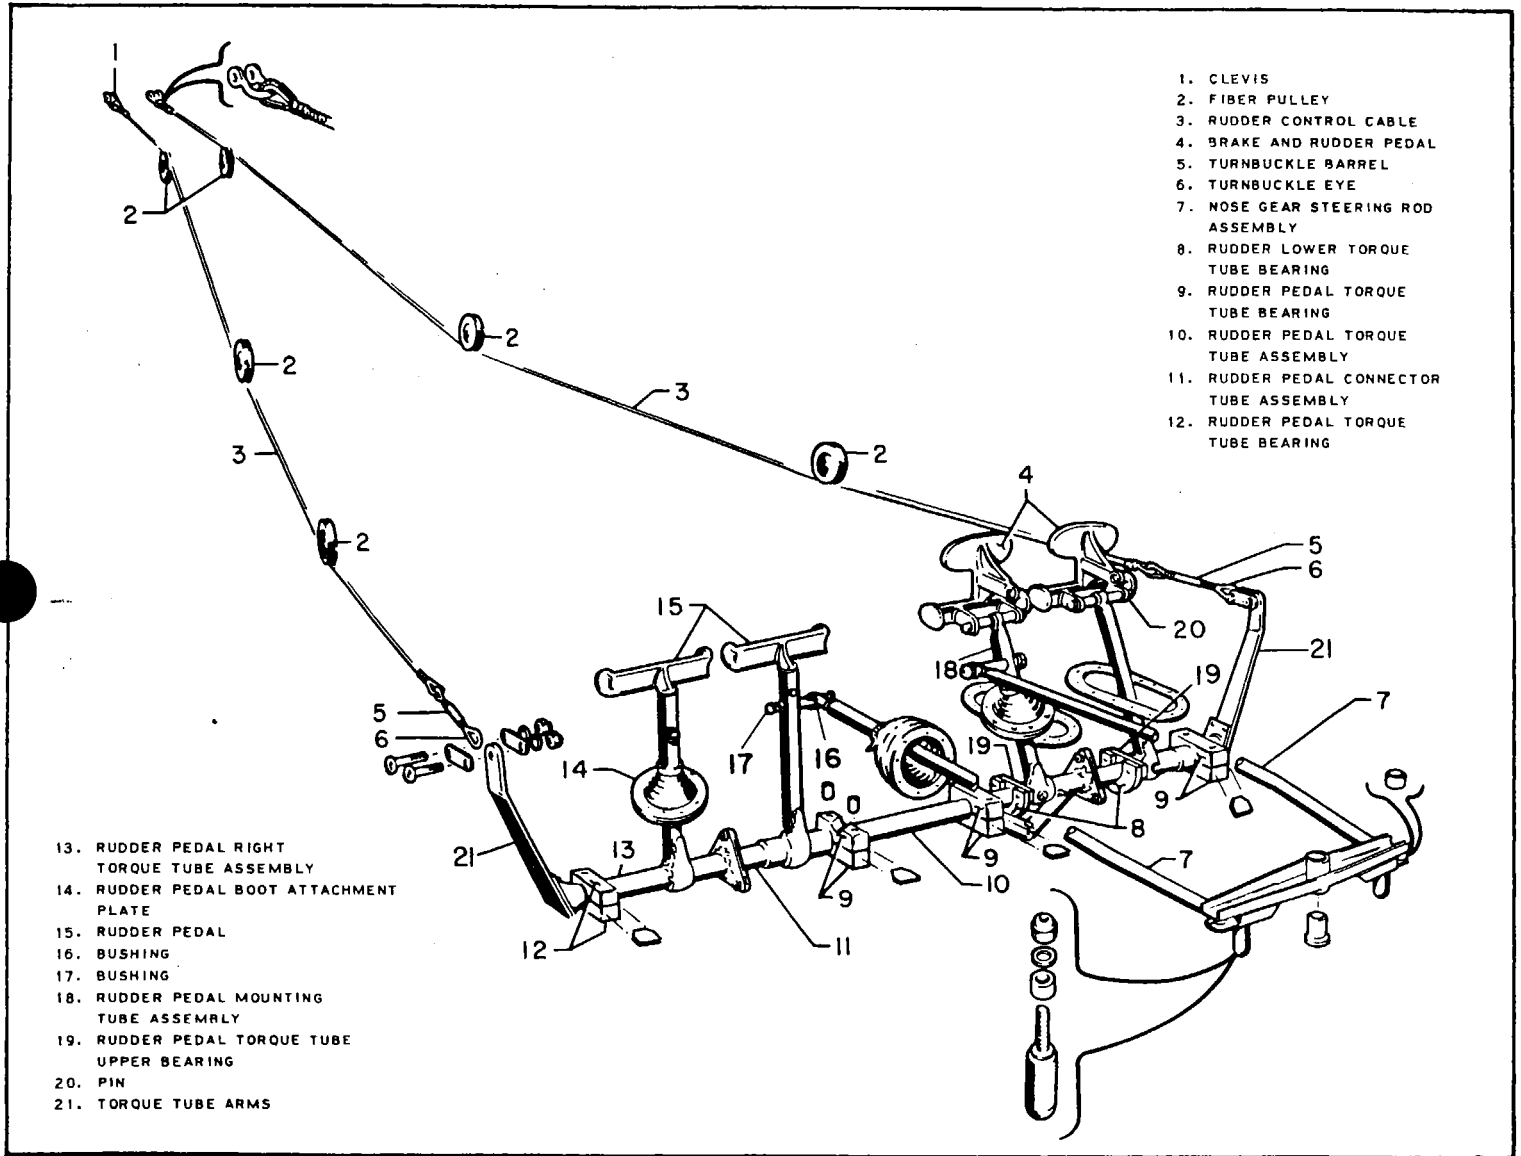
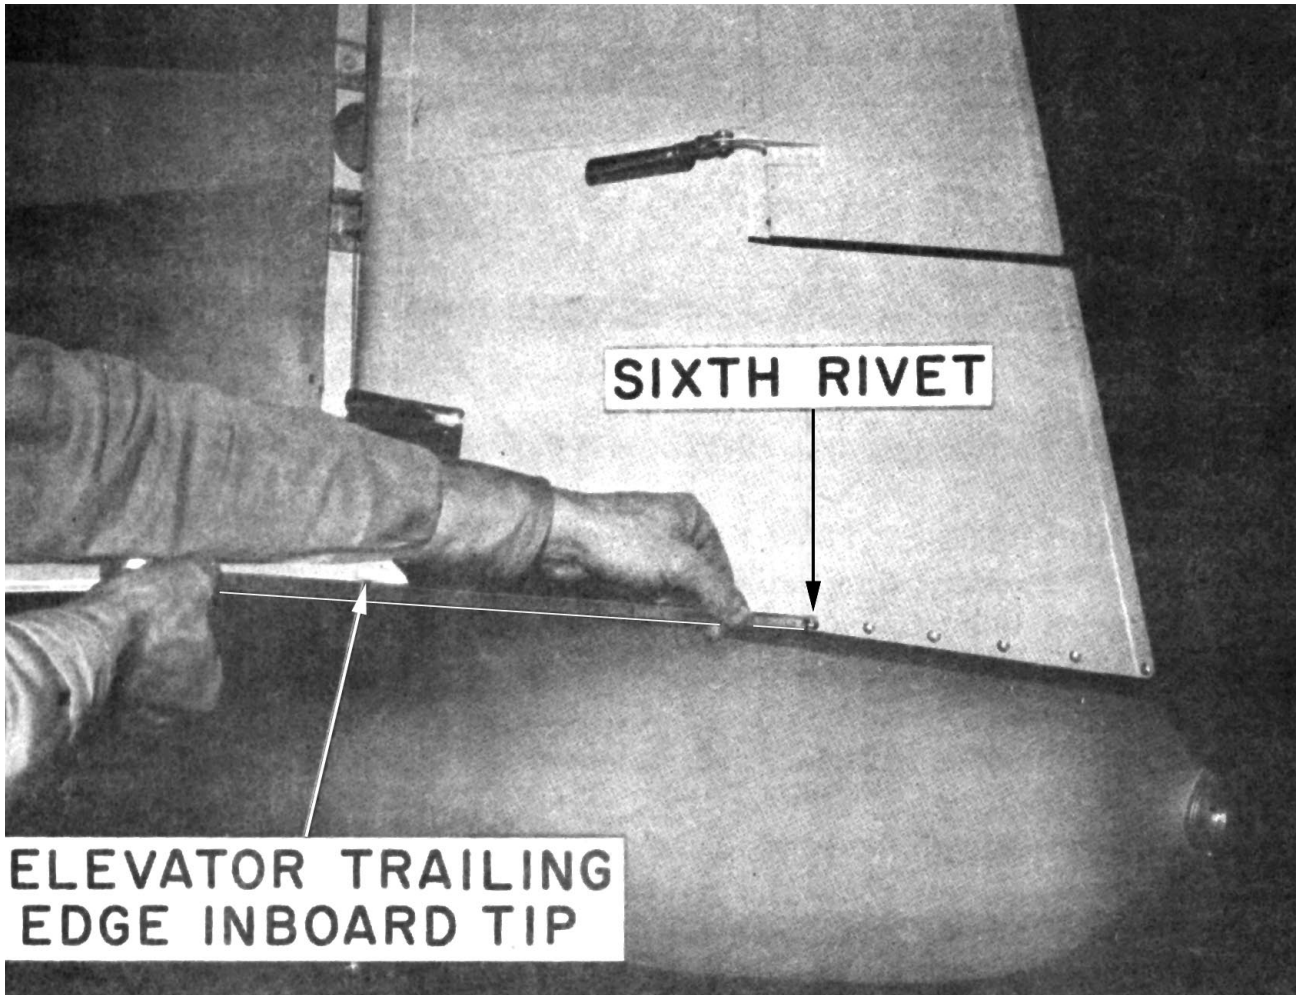

Figure 5-3. Rudder Control Installation
Figure 5-7. Checking Neutral Position of Rudder
b. Disconnect both rudder control cables (3, Figure 5-3) from the rudder torque tube horn. Remove the cotter pin, castellated nut, washer and clevis bolt at each end of the horn.
c. Disconnect the cables from the arms (21) of the rudder pedal torque tube assembly (10) by removing the turnbuckle eyes (6) from the turnbuckle barrels (5).
d. Remove a cotter pin, washer, and clevis pin from each brake and rudder pedal (4) freeing the pedal.
e. Remove a self-locking nut, washer, and bolt from the left rudder pedal on the co-pilot side and the right rudder pedal on the pilot side freeing the nose gear steering rod assemblies (7).
f. Remove the self-tapping screws holding the rudder pedal boot attachment plates (14) to the floorboard.
h. Remove the self-locking nuts, washers, and bolts holding the rudder pedal torque tube bearings (12) and (9) together.
j. Remove the six fiber pulleys (2) by removing a self-locking nut, washer, and bolt.
k. Reassemble and install all items, except the cables, in reverse order of the removal instructions above. (Refer to Figure 5-3.)
- b. Remove the cotter pins from the ends of both brake pedal pins (Figure 5-3). Slide out both pins (20), but do not remove the brake and rudder pedals (4). Push a 5/16 inch diameter rod, at least 13 inches long, through the hinge pin pivot lugs of the outboard pedal and into the lugs of the adjacent pedal, forcing the rudder pedals to align. This maintains the setting of the plumb bob with the jig centerline, or, if the first method is used, the alignment of the wheel with the chalk line.
- c. Attach each cable clevis (1) at the aft ends of the cables to the rudder bellcrank with a bolt, washer, castellated nut and cotter pin.
- e. Locate the sixth rivet from the rear of the rudder and measure the distance to the inboard tip of the trailing edge of the elevator. (Refer to Figure 5-7.) Similarly, measure this distance on the other side of the rudder. Make sure these two distances are equal. While adjusting cable tension, constantly check to see if these distances remain equal to prevent one cable from being tightened more than the other.